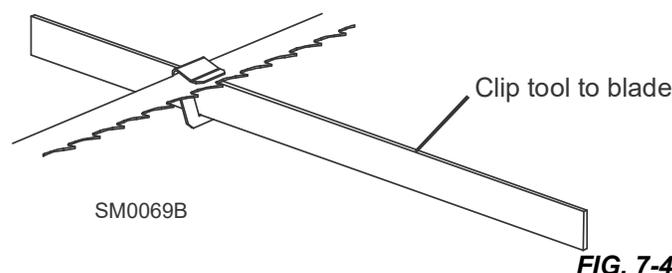

FIG. 7-4
2. Clip the alignment tool on the blade. See FIG. 7-4.